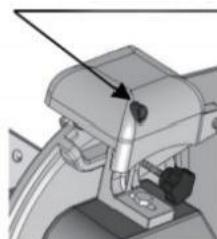

Fig.2
5. Connect the power plug, start the switch, the blade operates, and then press the handle of the grinding wheel to make the grinding wheel contact the blade for sharpening. After about 10 seconds to 15 seconds of sharpening, let go, and the grinding wheel returns to its original position (as shown in Figure 2).